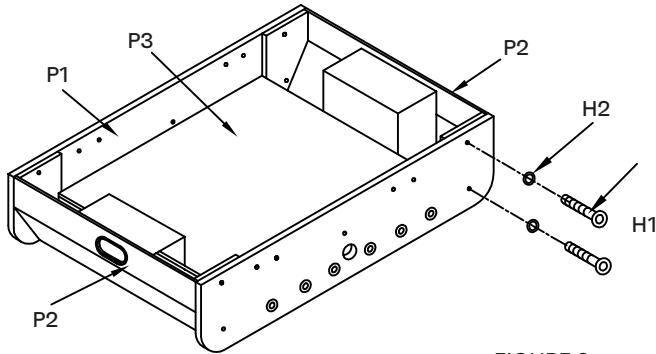

FIGURE 2
2. Attach the two end panels P2 to the side panels P1 as shown in figure 2 . Remember the groove must face inward toward the playfield . Attach the end panels with bolts H1 and washers H2.